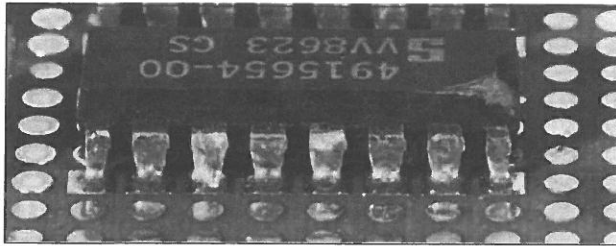

Figure 9-12
- Indentations or chipouts on **plastic** body components do not enter lead seal or lid seals or expose an internal functional element, Figures 9-12,13,14.